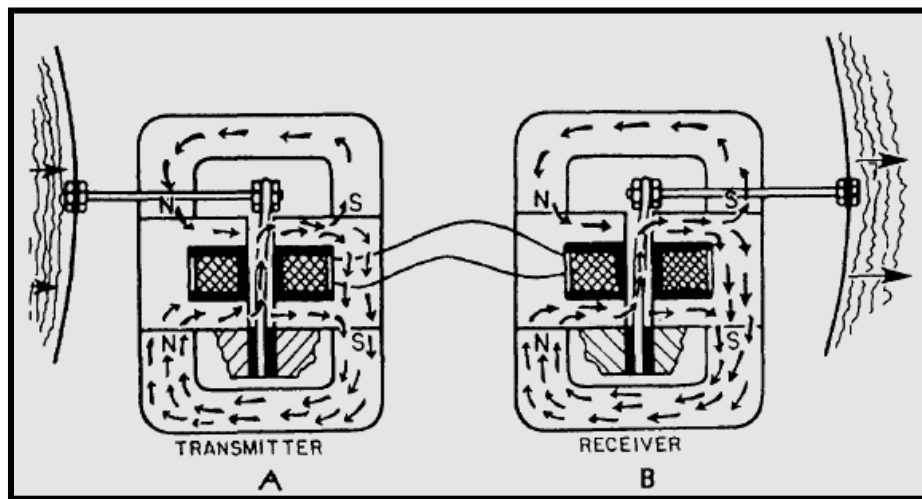

Figure 5-9.—Operation of sound-powered units.
**Principles of Operation of the Receiver Unit.**— The sound-powered receiver unit reverses the transmission process. The alternating voltage generated in a transmitter unit is impressed upon the receiver coil, which surrounds the armature of the receiver unit. The resultant current through the coil magnetizes the armature with alternating polarity. An induced voltage in the coil of the transmitter unit (fig. 5-9, view A) causes a current to flow in the coil of the receiver unit (fig. 5-9, view B), magnetizing the free end of the armature arbitrarily with north polarity. The free end of the armature is repelled by the North Pole and attracted by the South Pole. As the direction of the current in the receiver reverses, the polarity of the armature reverses. The position of the armature in the air gap reverses, forcing the diaphragm inward. The diaphragm of the receiver unit vibrates in unison with the diaphragm of the transmitter unit and generates corresponding sound waves in the receiver unit.